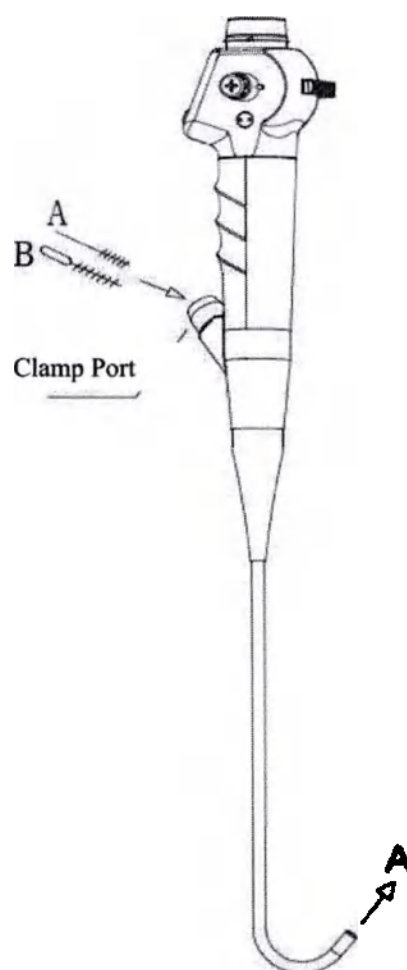

Fig 7.14
Follow the steps below to scrub all pipes and Clamp Ports while the endoscope is still immersed in the washing liquid (as shown in Figure 7.14).
2. Insert the channel cleaning brush into the suction valve Housing as illustrated by A in Fig 7.14. Using short strokes, feed the brush through the channel until it emerges from the distal end of the endoscope.
1. As shown in Figure 7.14, B, insert the tube channel port cleaning brush into the injection tube opening until the brush handle touches the tube opening.